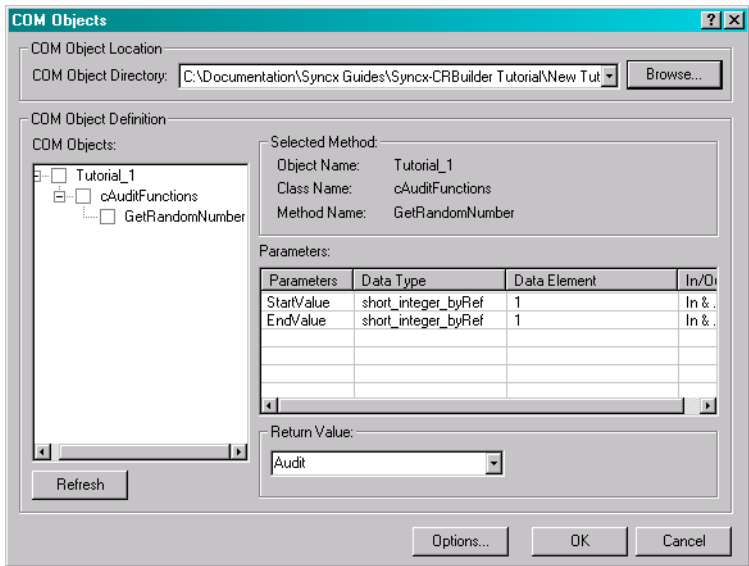

Figure 28-20. COM Objects dialog with defined parameters and new Audit data element.
- 1 In the **Return Value** drop-down list, type **Audit** directly into the drop-down field. This shortcut lets you create a new data element. Compare your work to Figure 28-20, below.